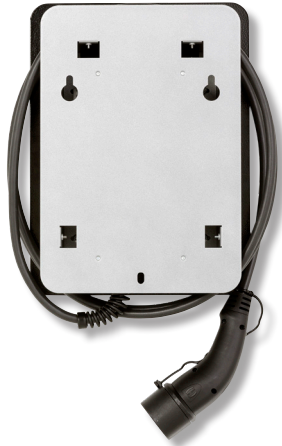

Figure 3: Overview of wallbe® LEO
1. Mark the three mounting holes (Fig. 3) as shown on the drilling plan.